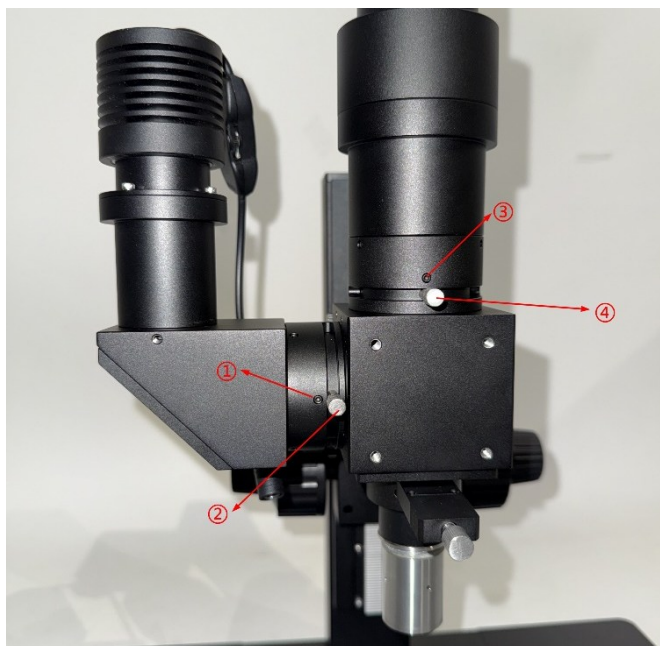

Figure 2 Schematic diagram of polarizer and analyzer adjustment instructions
As shown in Figure 2:①Polarizer locking screw (Allen wrench size is 1.5 mm), used to fix the position of the polarizer;②Polarizer lever, used to adjust the angle of the polarizer (The transmission axis of the polarizer is perpendicular to the polarizer lever);③Analyzer locking screw (Allen wrench size is 1.5 mm), used to fix the position of the analyzer;④Analyzer lever, used to adjust the angle of the analyzer (The transmittance axis of the analyzer is parallel to the analyzer lever).